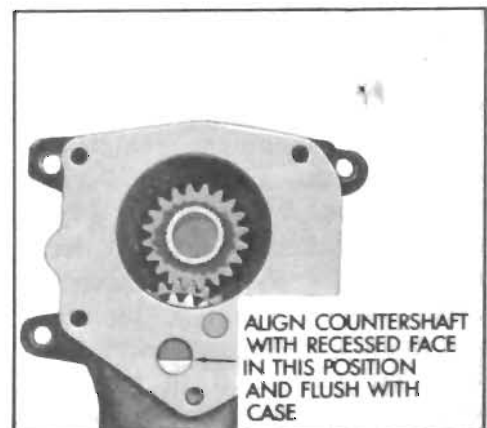

Figure 4-31—Countershaft Alignment
of the case. See Figure 4-31.
14. After shaft is aligned as described above and as shown in Figure 4-31, drive shaft into case until the flat on shaft is flush with case.